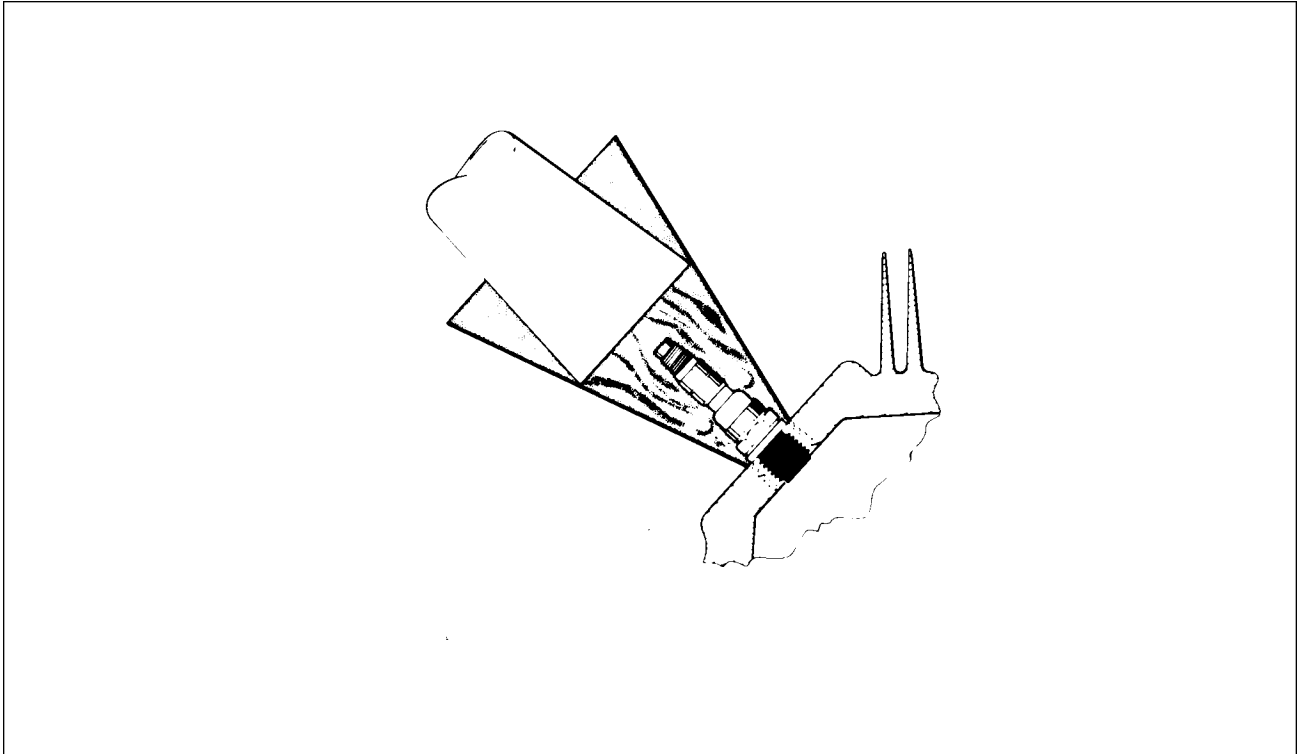

Figure 74-22. Removing Frozen Spark Plug
4. Removal of seized spark plugs in the cylinder may be accomplished by application of liquid carbon dioxide by a conical metal funnel adapter with a hole at the apex just large enough to accommodate the funnel of a CO2 bottle. (Refer to Figure 74-22.) When a seized spark plug cannot be removed by normal means, the funnel adapter is placed over and around the spark plug. Place the funnel of the CO2 bottle inside the funnel adapter and release the carbon dioxide to chill and contract the spark plug. Break the spark plug loose with a wrench. A warm cylinder head at the time the carbon dioxide is applied will aid in the removal of an excessively seized plug.